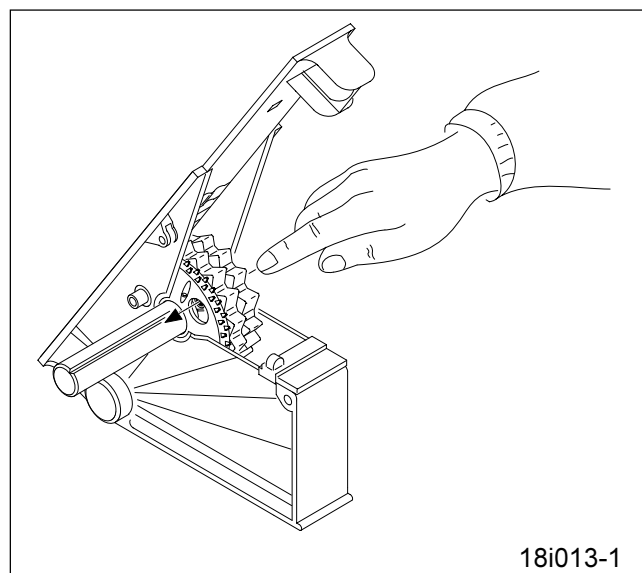

Fig. 10.3
- Press at every seed metering wheel the pin against the fine seed metering wheel as illustrated in Fig. 10.3. Then check for correct connection by attempting to rotate one half against the other!